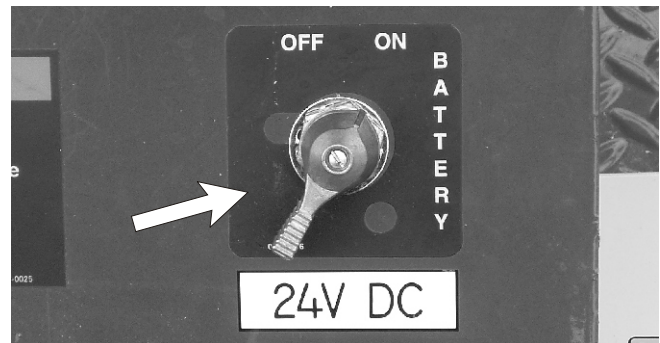

Figure 13.3 - DC Motor Battery Isolate Switch
In order to operate the DC motor the 24V DC battery isolator switch, mounted on the side of the plinth, will also need to be switched on (see Figure 13.3).
This switch allows the machine to operate to its full boom height of 12.8m when the switch is in the DISABLED position ③ or to the restricted height of 10.9m when the switch is in the ENABLED position ② see Figure 13.3.